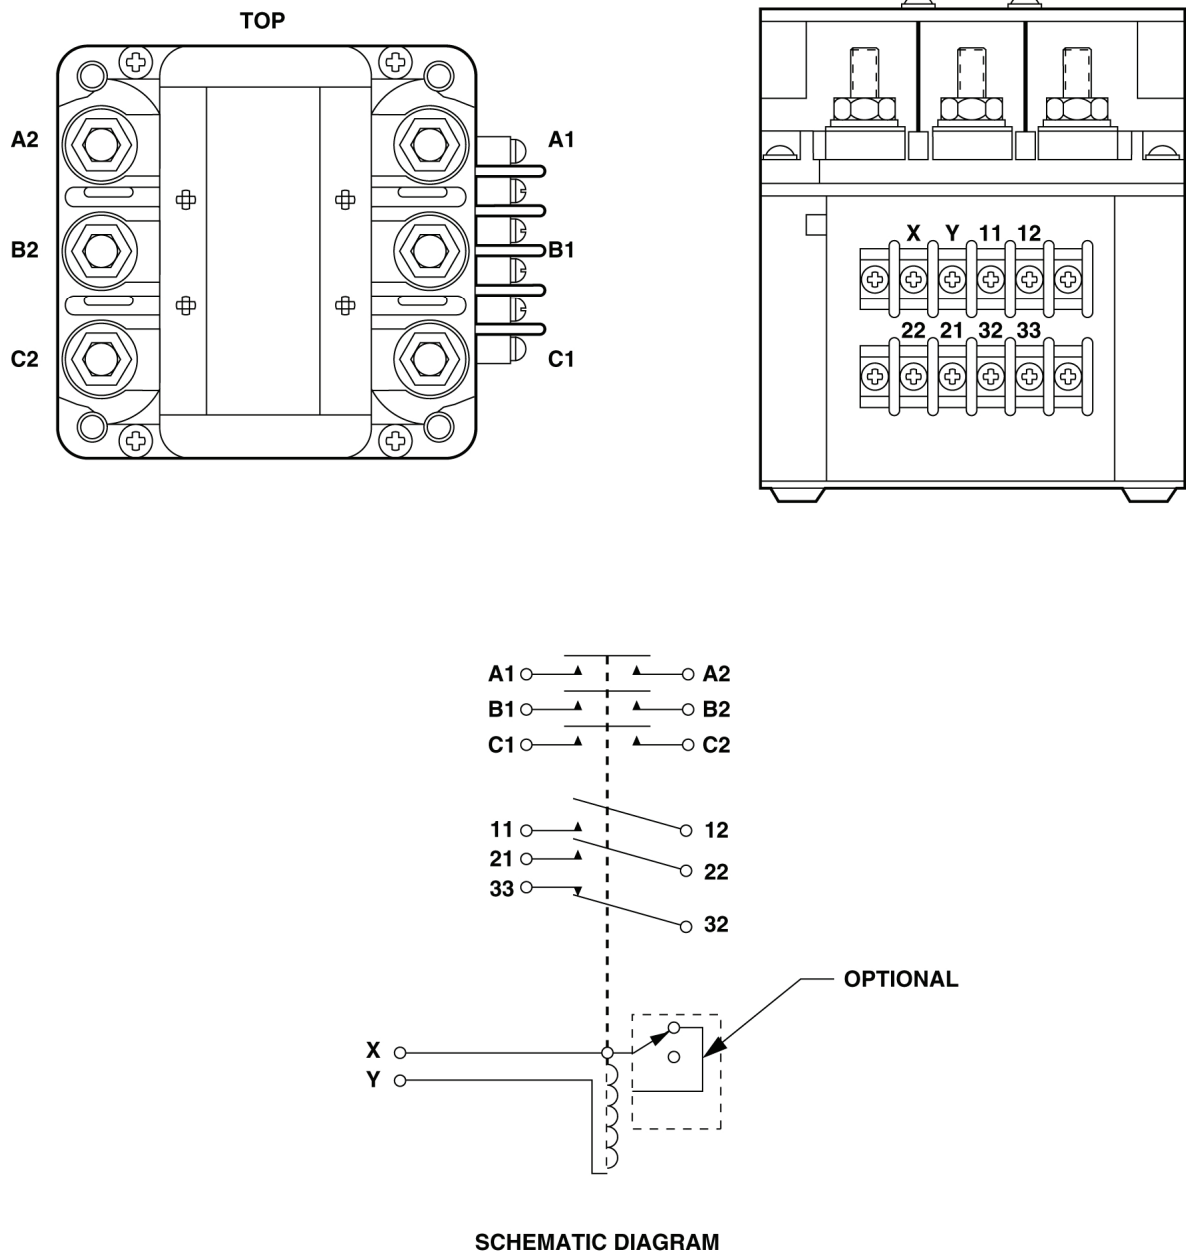

Figure 5-12. Contactor Test Points (A, B, & C Models).
- (1) Refer to figure 5-12 and perform the following continuity checks. If any multimeter indication is not correct, replace contactor (Paragraph 5-11.2).